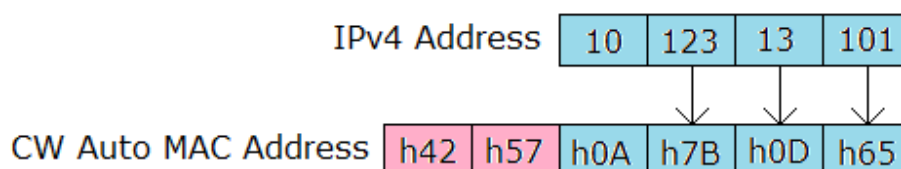

Figure 2. CW Auto MAC Mode
- In CW Auto mode the device automatically computes the MAC address from its IP address (Figure 2). The first two bytes of the MAC address are constant 42:57 hexadecimal. The lower 4 bytes refer to the IPv4 address.